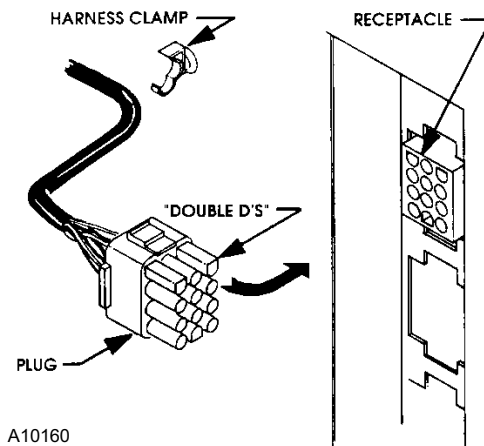

FIGURE 7. Tray Harness
2. Disengage the tray harness from its snap open harness clamp on the right hand side wall. See Figure 7.
- For proper plug to receptacle orientation the two flat sided connectors (**Double D's**) on the plug should be up. See Figure 7.